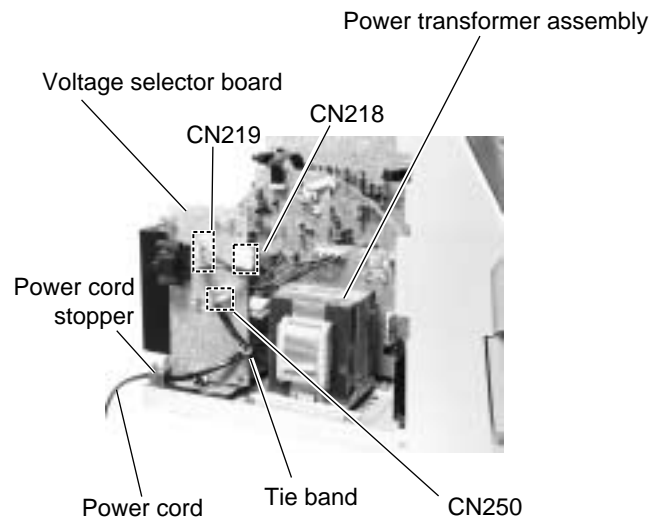

Fig.24
■ Removing the power cord (See Fig.24)